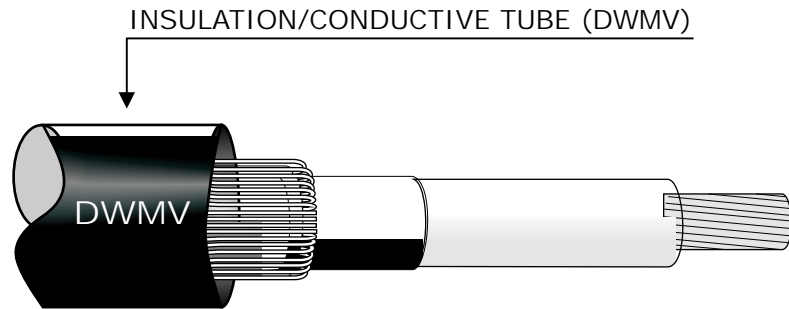

Fig 2
4. Before proceeding, position the Insulation/Conductive Connector Insulation Tube down one of the Cables ends as shown in Fig2.